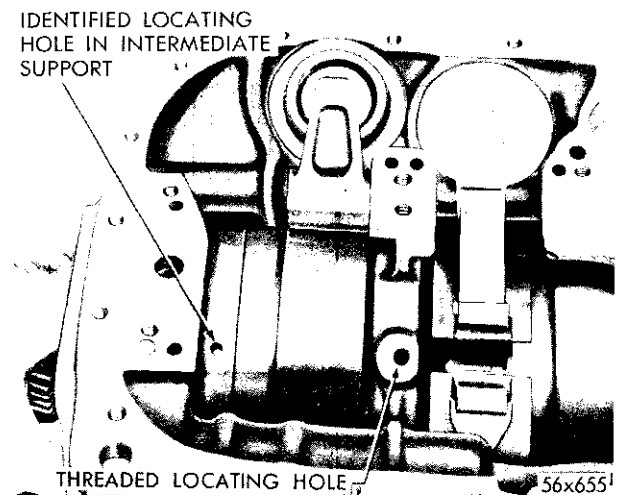

Fig. 84—Installing Unit No. 2
(1) Start the unit through rear of transmission case.
(2) Align the identified locating hole in intermediate support with threaded locating hole inside of transmission case (Fig. 84).
(3) By supporting and keeping unit centered as much as possible, guide it through the bands until it contacts the hub of the front clutch. While pushing in on assembly, rotate the sun gear to engage clutch plates at the rear clutch on hub of front clutch.